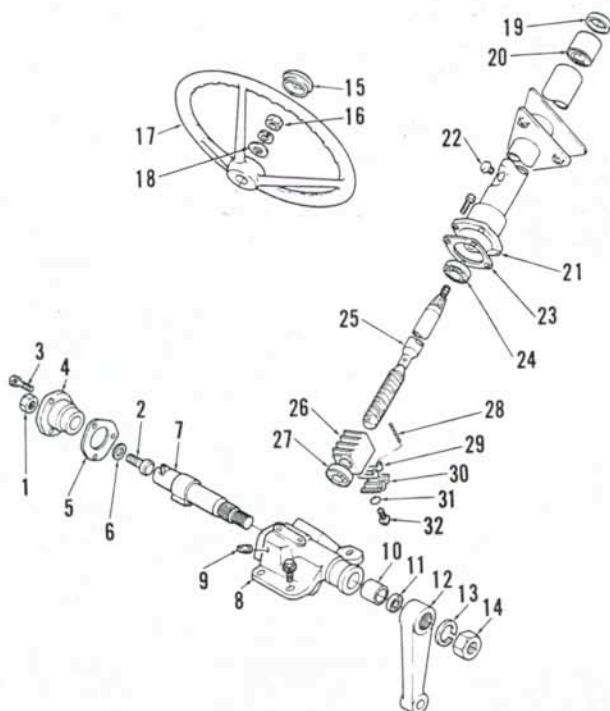
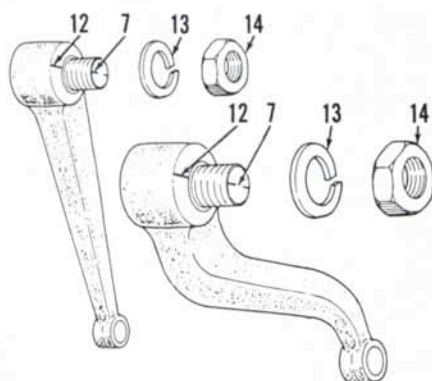

Fig. 25—Exploded view of manual steering gear used on 1100, 1110, 1200 and 1210 models.
Fig. 30—Reference marks should be scribed on end of sector shaft (7) and pitman arm (12) to ensure correct alignment when reassembling.
15. All manual steering models (except 1710 Offset) are equipped with a recirculating ball nut and sector shaft type steering gear as shown in Fig. 25, 26, 27 or 28. Steering gear is mounted on top of clutch housing and can be removed after removing steering wheel and instrument panel. On some models the fuel tank must also be removed.
16. **OVERHAUL.** To disassemble removed steering gear, proceed as follows: Scribe alignment marks on pitman arm (12—Fig. 30) and on end of sector shaft (7), then use a suitable puller to remove pitman arm. Remove retaining screws (3—Fig. 25, 26, 27 or 28), then withdraw sector shaft (7) and cover (4) as an assembly. Remove screws attaching steering column cover (21) to housing (8), then pull worm shaft, ball nut (26)
When reassembling, install ball nut, steering shaft and column cover using original shim (23) between steering column and housing. Attach a cord to steering shaft and measure pull required to rotate shaft using a spring scale as shown in Fig. 29. Add or remove shims (23—Fig. 25, 26, 27 or 28), if necessary, to obtain the following recommended preload setting.
Locate ball nut (26—Fig. 25, 26, 27 or 28) in center of travel on worm shaft. Install sector gear and shaft (7) with center tooth of sector gear engaging center teeth of ball nut. Tighten side cover (4) retaining screws.
Fill steering gear to level plug opening (9) with Ford 134 hydraulic fluid or equivalent. Install pitman arm aligning assembly marks (Fig. 30). Install steering wheel and adjust free play as outlined in paragraph 15.